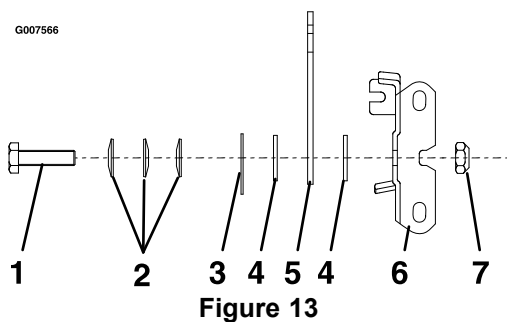

Figure 13
2. Tension in throttle lever can be adjusted by adjusting the tightness of the lever pivot bolt, which is located under the console (Figure 13).